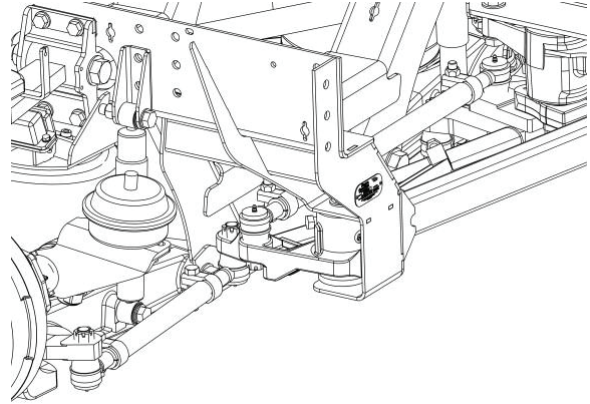

Figure 5 - Steering Arm Assemblies
2. Start vehicle engine. Oscillate the steering wheel and observe the motion of the steering arm assemblies (**Figure 5**). The steering arm assemblies should not exhibit any noticeable conical motion about their pivot axes.